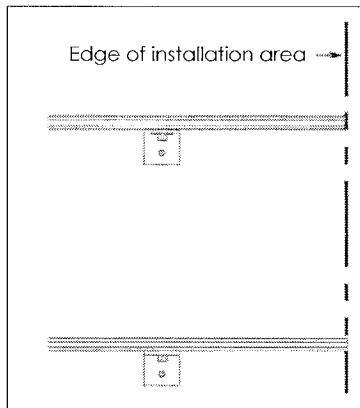
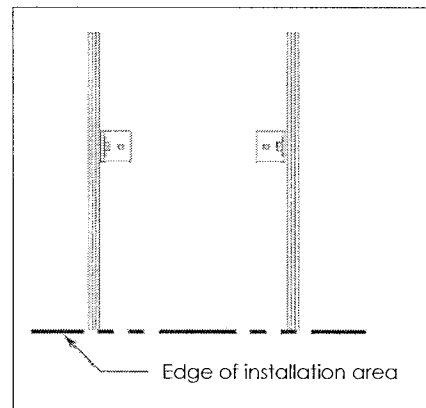

Figure 15. Rails perpendicular to the rafters.
Figure 16. Rails parallel to the rafters.
**Aligning the Rail Ends.** Align one pair of rail ends to the edge of the installation area (Fig. 15 or Fig. 16).
If the rails are perpendicular to the rafters (Fig. 15), either end of the rails can be aligned, but the first module must be installed at the aligned end.
If the rails are parallel to the rafters (Fig. 16), the aligned end of the rails must face the lower edge of the roof. Securely tighten all hardware after alignment is complete (20 ft lbs).